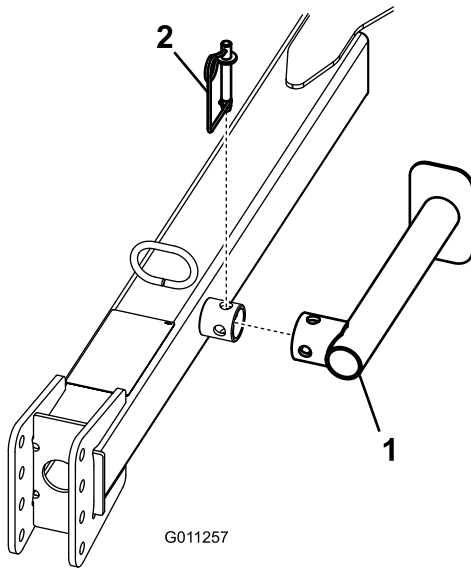

Figure 9
3. Remove the spring pin, rotate the jack down, and install the spring pin (Figure 9).